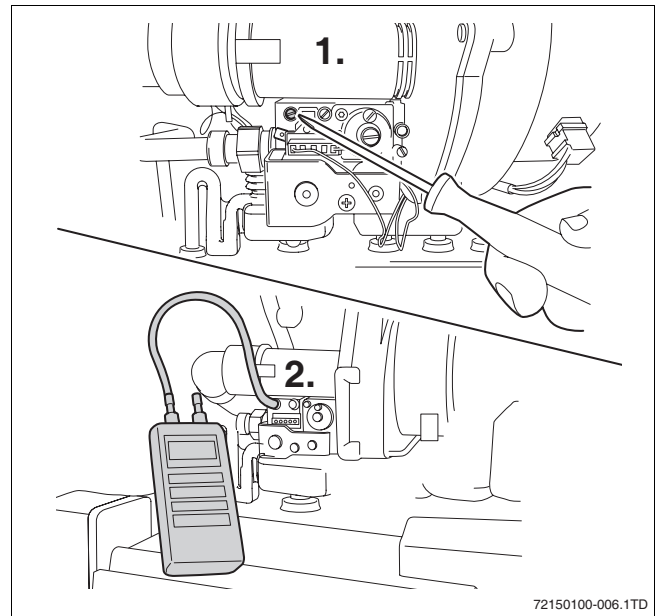

Fig. 5 Measuring the inlet gas pressure
- ▶ Close the gas shut-off valve. Loosen the screw plug on the inlet gas pressure testing nipple by 2 turns (→ fig. 5, [1]).
- ▶ Connect the pressure gauge connection hose to the testing nipple (→ fig. 5, [2]).